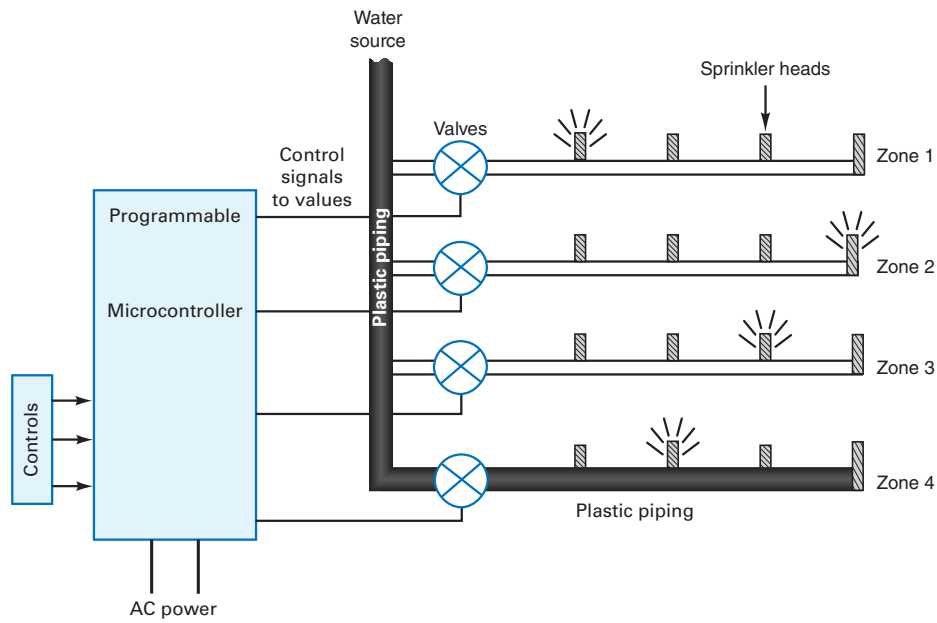

Figure 41-22 An automatic programmable lawn sprinkler system.
41.9 The automatic lawn sprinkler system, shown in Fig. 41-22, has four zones of operation. Water sprinkler heads in each zone turn on in sequence for a specific amount of time.